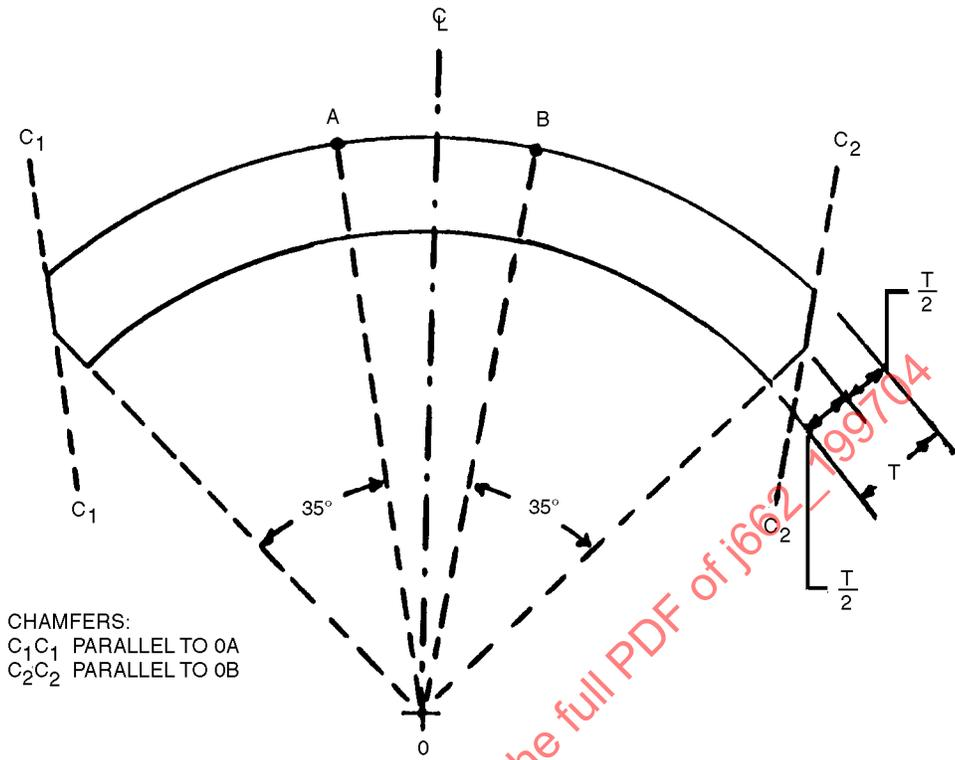

FIGURE 2—BRAKE BLOCK WITH MORE THAN 70 DEGREES ARC
- 3.2 Where the arc length of the block is more than 70 degrees, the ends shall be cut off parallel to a radius 35 degrees inside the ends. This line is to intersect the radial ends at a point one-half the thickness of the block, as shown in Figure 2.